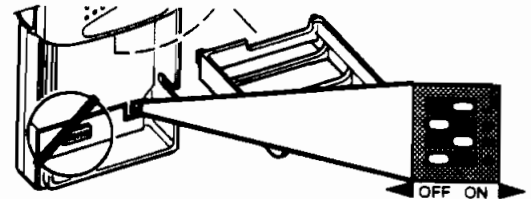

Figure 11.
6. Locate the frequency switches and set switches to the selected frequency. Refer to Figure 11.